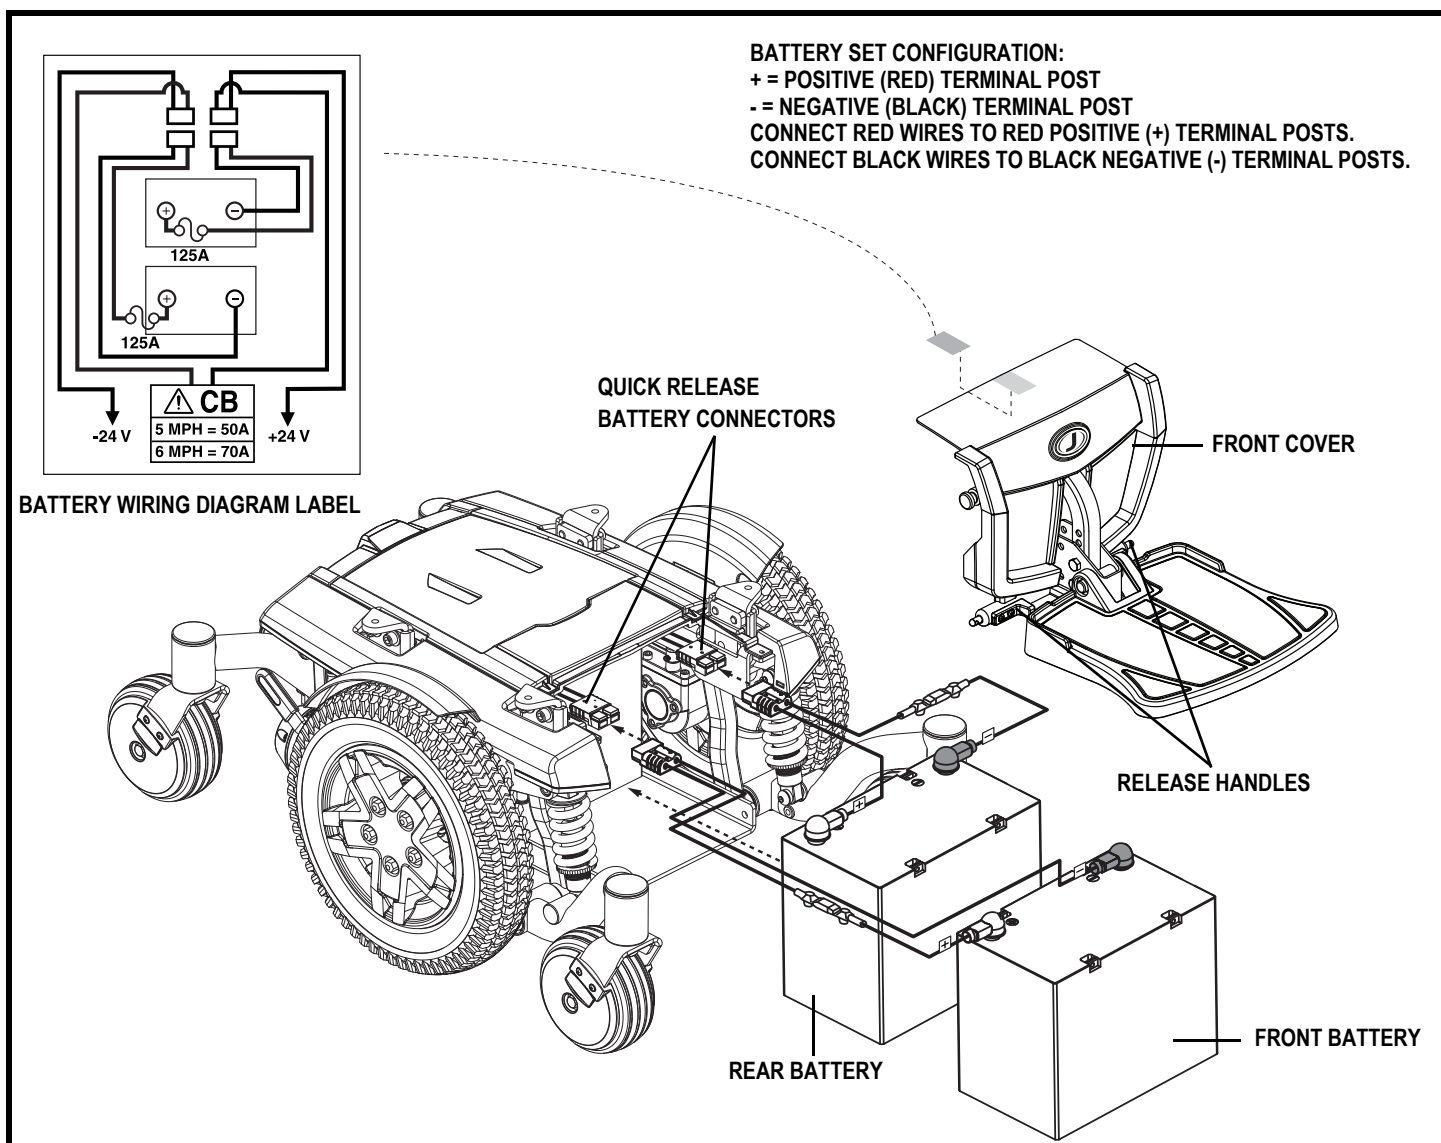

Figure 20. Battery Installation
3. Remove the front cover by squeezing the release handles (see figure 20) and lifting the foot platform bracket up and away from the power base.
7. Connect the battery harness to the new front battery according to the battery wiring diagram. See figure 20.
8. Connect the battery harness to the new rear battery according to the battery wiring diagram. See figure 20.